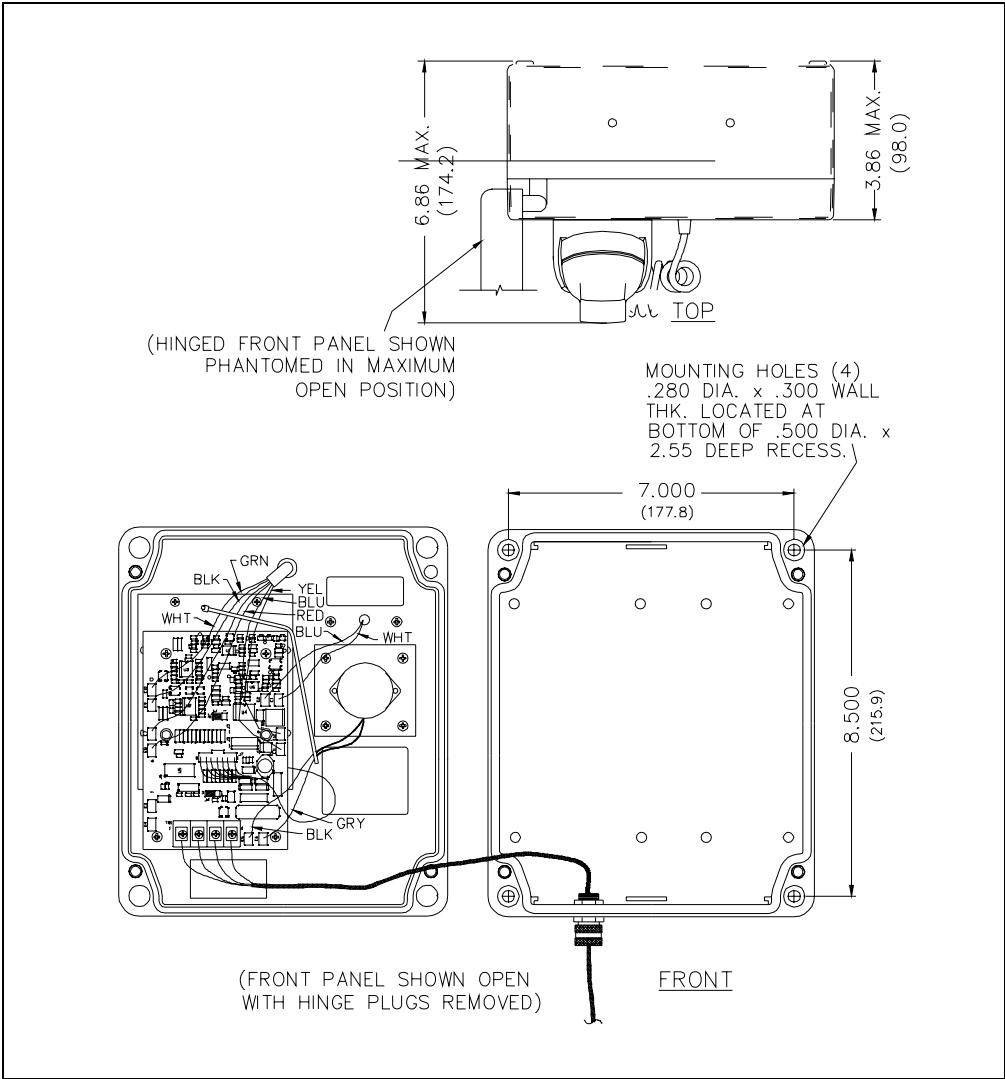

Figure 4. Model 246-001 Mounting Diagram
2. Mount the enclosure on the wall using four 1/4-20 machine screws with nuts and washers or #14 wood screws of appropriate length, depending on the mounting surface. Refer to Figure 4 for details.